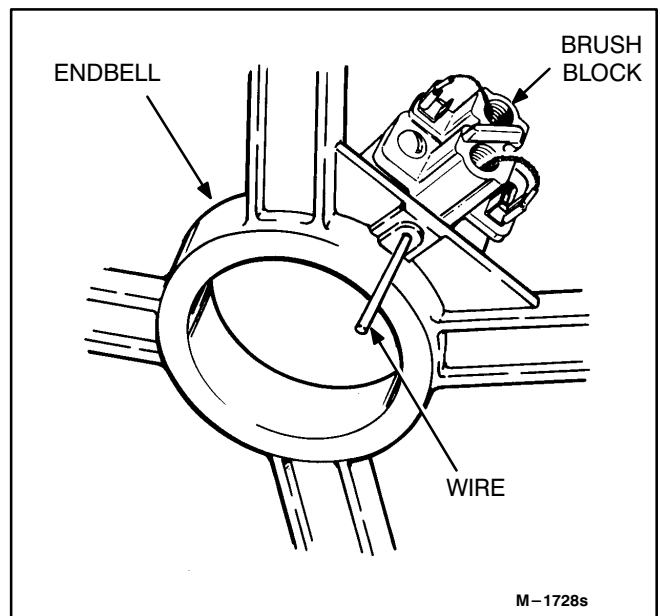

FIGURE 9-4. BRUSH BLOCK
11. Prepare the brushes for endbell removal. Carefully disconnect the wire harness leads from the brush block and pull each brush outward from the holder and at the same time insert a piece of wire into the small hole in the endbell at the bottom of the brush block. See Figure 9-4. Carefully guide the wire through the brush block and then release each brush. Verify that each brush is held off the slip rings by the wire. Remove the wires from the magneto assembly. Loosen the two screws holding the brush block to the endbell.
4. Prepare the endbell for installation. Lubricate the o-ring on the bearing. Verify that the brushes are held inside the holder with a piece of wire and that the brush block is loose. See Figure 9-4 on Page 9-6. Install the endbell onto the rotor bearing and secure to the stator housing with the endbell mounting screws.
3. Push each brush into the brush holder and insert a stiff wire through the small hole in the base of the holder. See Figure 9-4 on Page 9-6. The wire holds the brushes off the slip rings during assembly.